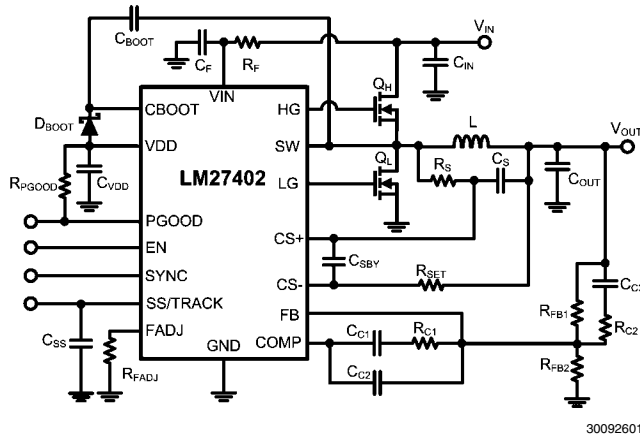

FIGURE 4. Typical Application Circuit
The Design Guide assists the designer with the steps necessary to select the external components to build a fully functional power supply. As with any DC-DC converter numerous tradeoffs are possible to optimize the design for efficiency, size, or performance. These tradeoffs will be taken into account and highlighted throughout the discussion. To facilitate component selection, the circuit shown in Figure 4 below may be used as a reference. Unless otherwise indicated, all formulae assume units of Amps (A) for current, Farads (F) for capacitance, Henries (H) for inductance and Volts (V) for voltage.